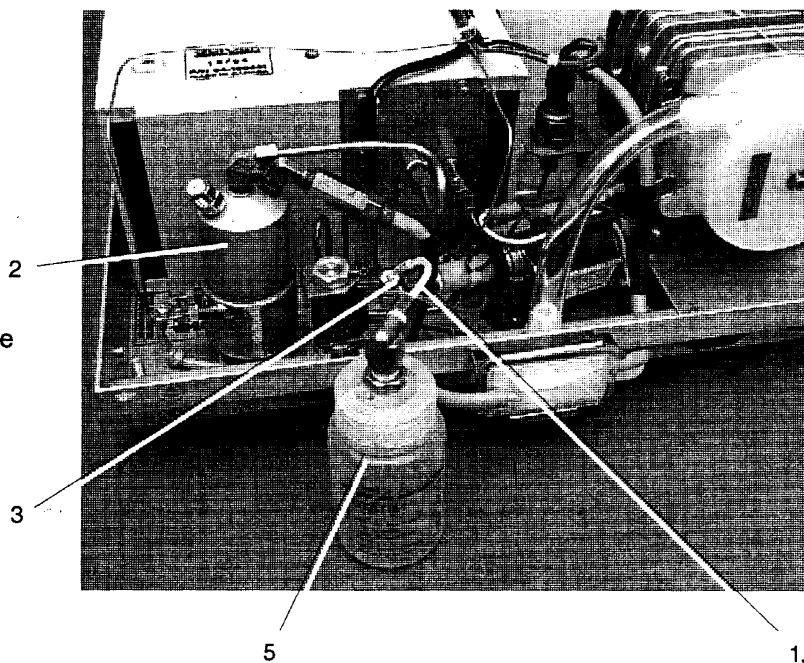

Figure 7
5. Thread the other end of the replacement tube (4) to the fitting (5) or pump test bottle (6), FINGER TIGHT. DO NOT CROSS THREAD T FITTINGS. DO NOT OVERTIGHTEN.
7. Activate the pump using the control box and record the time it takes the water level to reach the line marked MIN (see Figure 7).